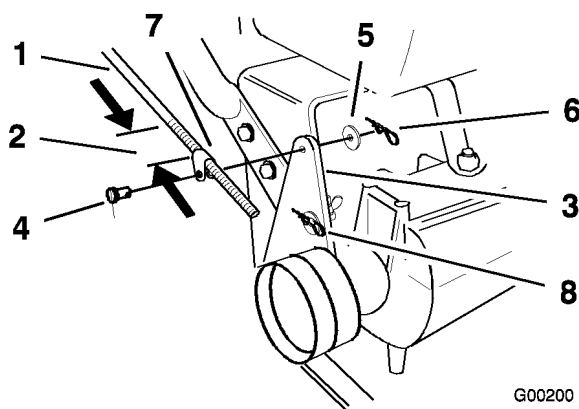

Figure 11
2. Make sure the rod fittings are equal distance onto each control rod. The rod fittings should be approximately 3-1/2 inch (89 mm) from the start of the threads for the handles lowest position (Figure 11).
3. Slide clevis pins through rod fittings and mounting holes in idler brackets (from outside) (Figure 11). Secure with washers and hairpin cotters (Figure 11).